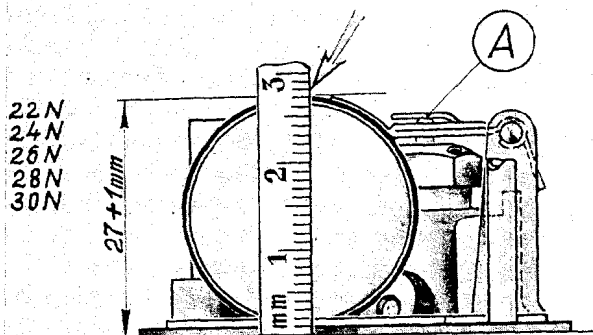

Fig. 194. Float valve closed, measured without packing
Please, take the illustrations Fig. 194 and 195 into consideration!
For the basic adjustment of the fuel level always start from the fact that the tongue (A) in Fig. 194 must be parallel to the holder of the float. An extremely bent tongue (A) means that the holder of the float is distorted at the lower soldering joint (kink angle). In this case, the floats must be reset to the basic dimension 30.0 mm (with the float valve closed and the damping of the float needle not depressed) uniformly (in the kink angle, lower soldering joint).
The dimension (27 mm) given in Fig. 194 means fully spring-loaded damping of the float needle - a slight correction is effected at the tongue (A).
Plug the carburettor, which is cleaned and checked for proper basic adjustment, into the fuel hose and open the fuel cock. Fuel will be admitted into the float chamber until the float lifted by the raising fuel level closes the float needle valve, thus, interrupting the fuel feed. The level now actually present in the float chamber is compared with the marking at the inspection glass and, if required, corrected by readjusting the tongue (A), Fig. 194.